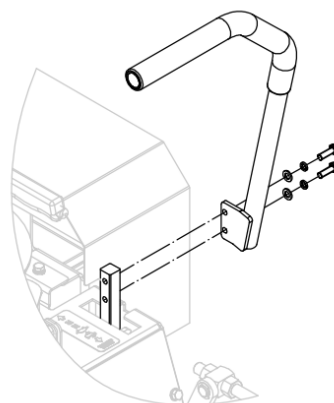

Fig. 5
2. Place the lever on the outside of the control arm shaft and secure with bolts and washers (Refer to Fig. 5),tighten until snug. Repeat on opposite side of unit.